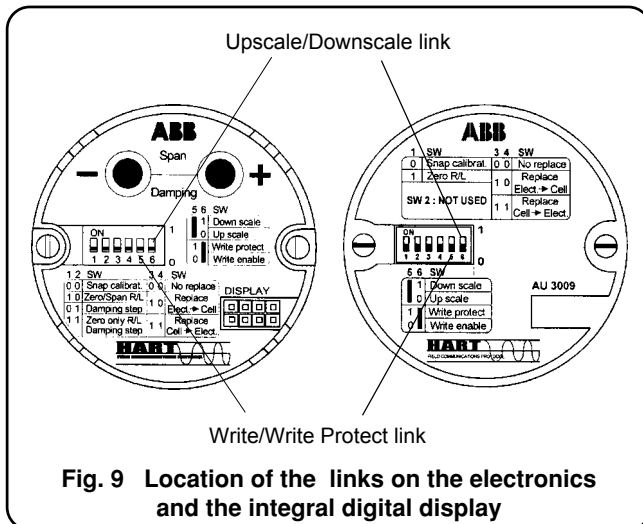

Fig. 9 Location of the links on the electronics and the integral digital display
- iv) the Upscale/Downscale link is positioned to the required function: ON for Downscale OFF for Upscale (see Fig. 9).
★ **Note** - To prevent unauthorized calibration operation refit the write protection link in position ON (Write Protect) (Fig. 9).